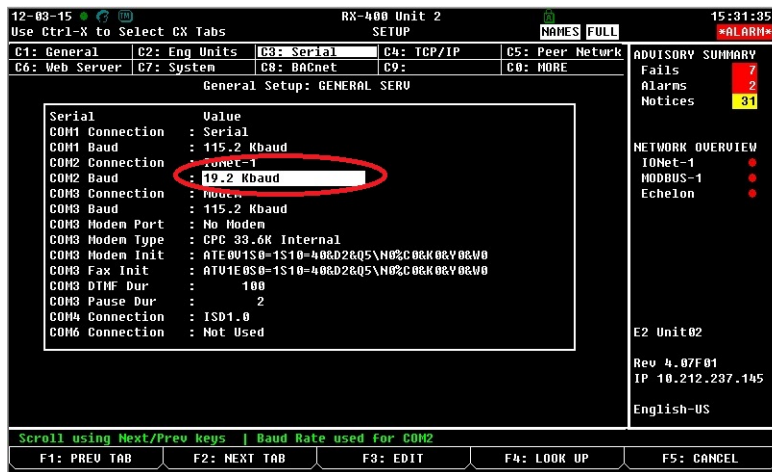

Figure 2 - E2E Serial Configuration Screen - Baud Rate
3. Press  +  (or  two times) to access the **C3: Serial** tab (*Figure 2 - E2E Serial Configuration Screen - Baud Rate*).